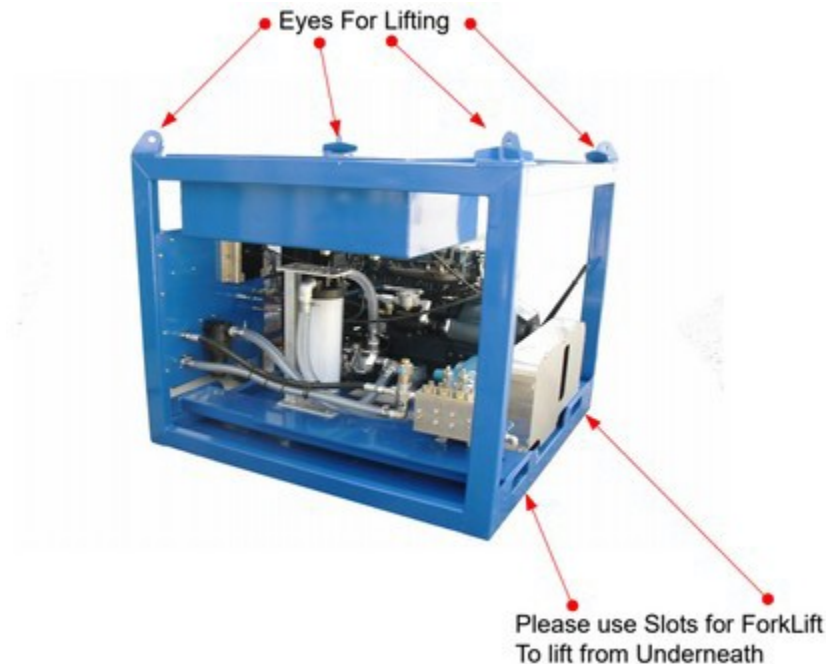

Figure 4.4 – Lifting Guidelines
- Gravity feeding water source (See **Figure 4.4**). Use a hose with a diameter of at least 1-1/2" to connect the water tank to the power unit
Ensure that the water source can reliably deliver the required pump flow of 20 GPM (75 LPM). A minimum delivery of 25 GPM (95 LPM) is recommended to ensure that the pump is not starved of water. If connecting to a gravity feed tank, locate the tank outlet above the water inlet connection on the power unit to ensure a flooded suction line (See **Figure 4.4**).